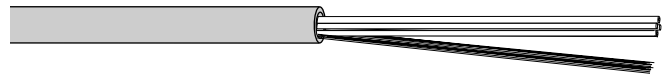

Figure 6
- Pull the 3 to 4 inch section of jacket off the cable (Figure 6).